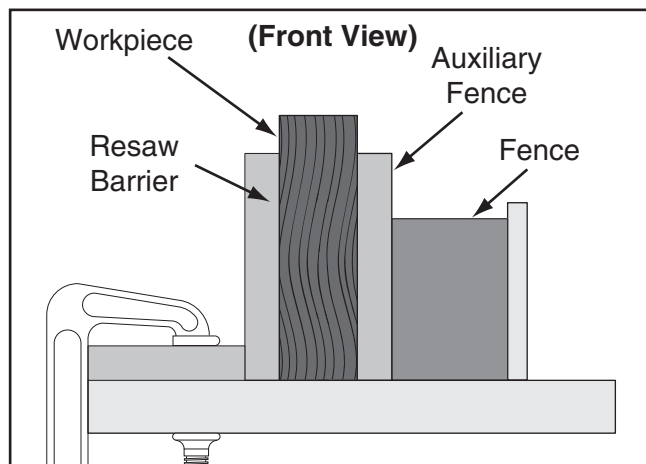

Figure 88. Ideal resaw workpiece setup.
- Place the workpiece against the auxiliary fence and slide the resaw barrier against the workpiece, as shown in **Figure 88**. Now clamp the resaw barrier to the table at both ends.